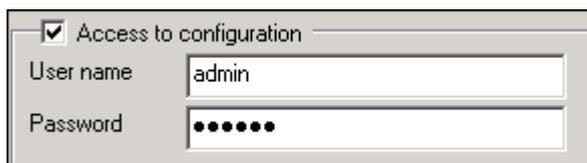

Fig. 30 Access to configuration group field on the LAN cameras tab
2. Mark the checkbox **Access to configuration** (see "Fig. 30", page 44).